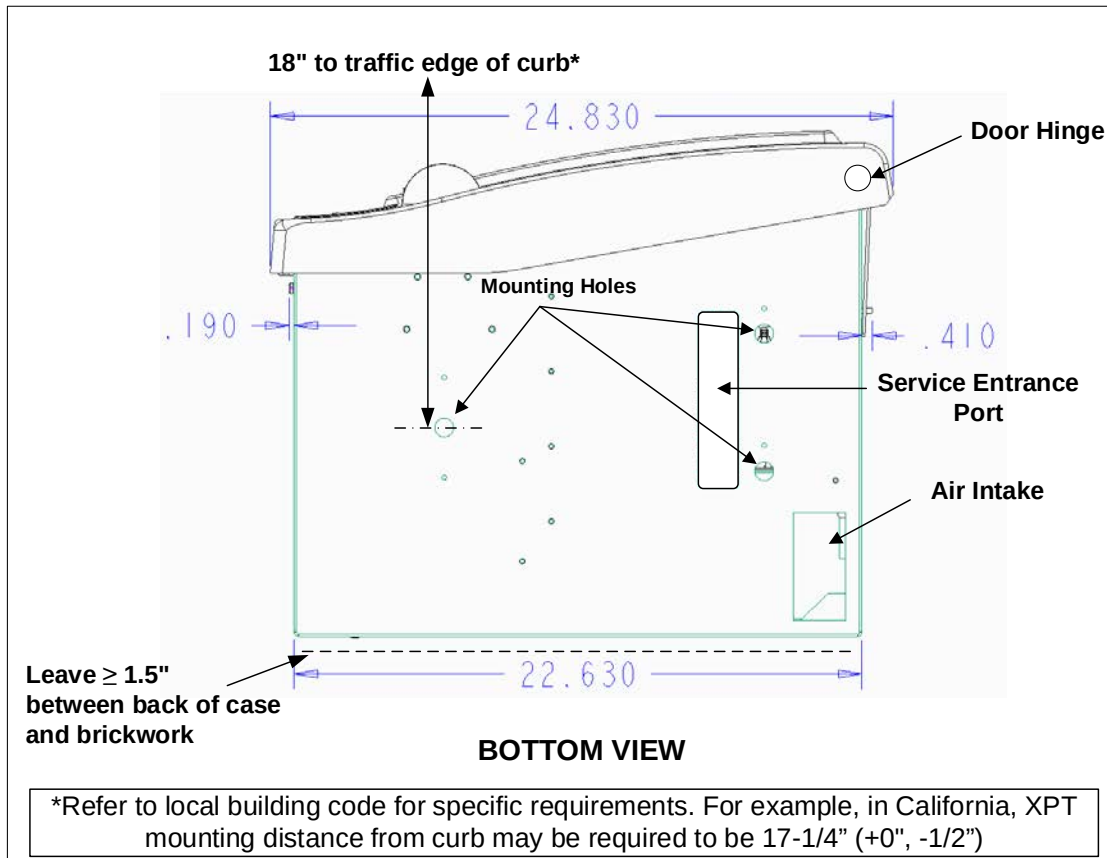
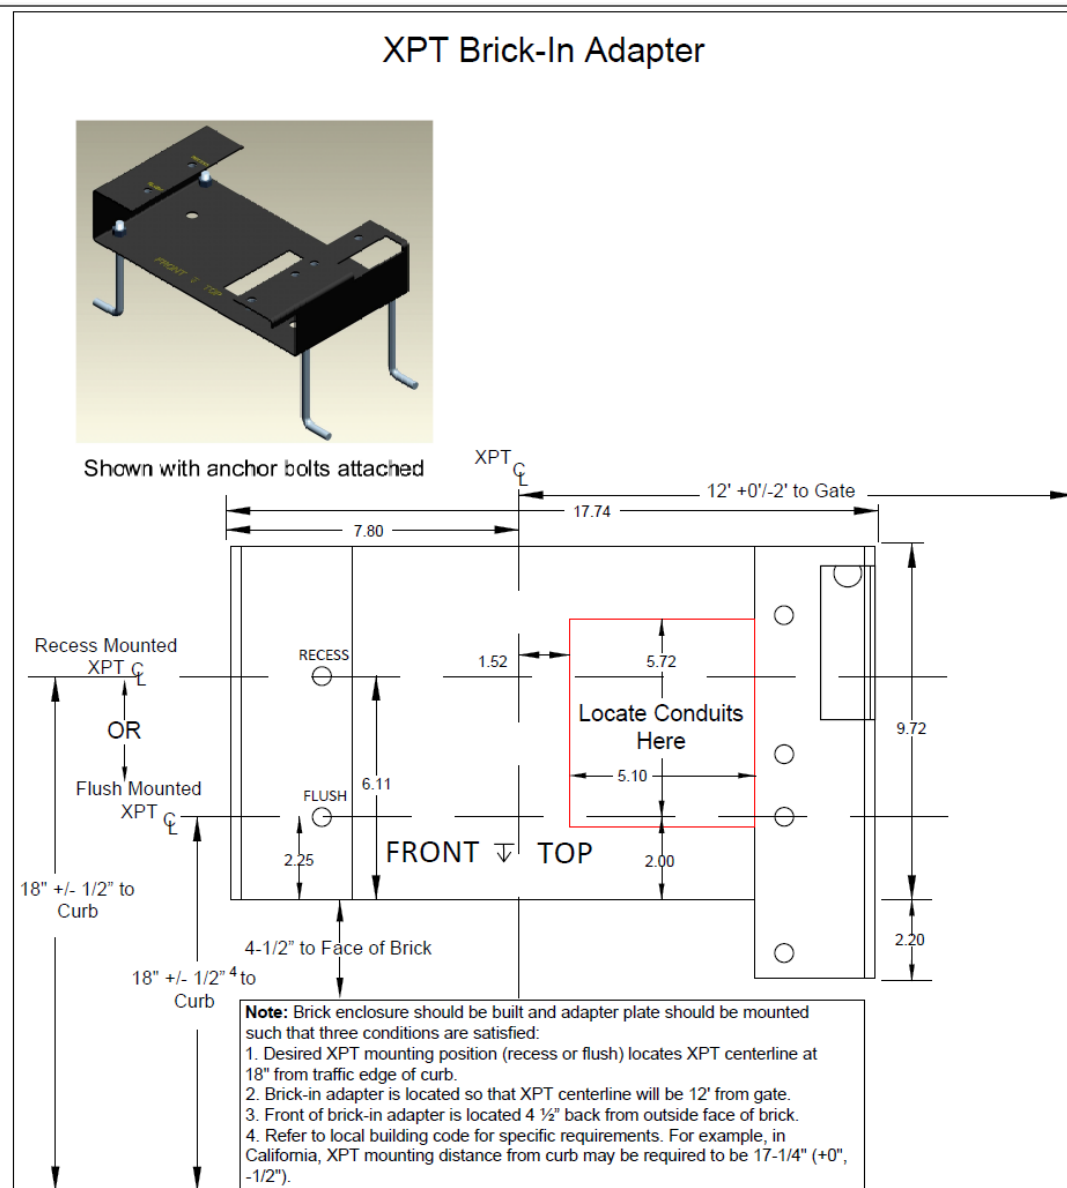

Figure 14. Bottom View of XPT
Figure 16. Brick-In Adapter
- Conduit should be placed to align with the rectangular cutout in the brick-in adapter plate, as shown in Figure 16. Figure 14 also provides a low-detail footprint of the bottom of the XPT.
The brick-in adapter does not share the same centerline with the XPT. Refer to Figure 16 to determine the installed XPT centerline relative to the brick-in adapter.
3. Verify conduits are properly located according to the cutout in the brick-in adapter, as shown in Figure 16.